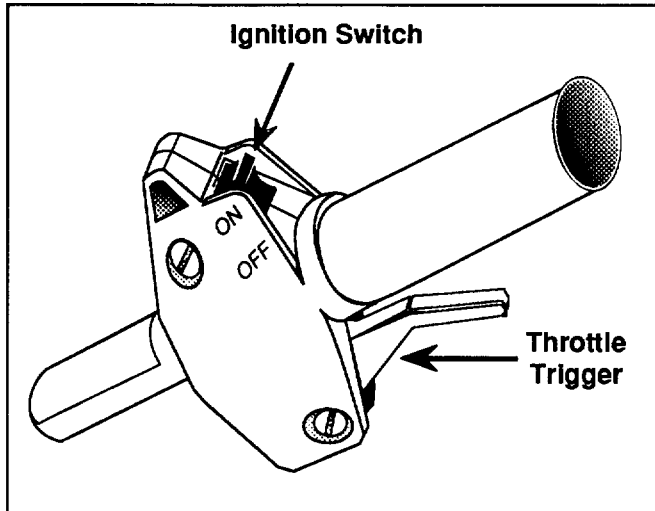

Fig. 7
2. **MOVE THE IGNITION SWITCH "ON"!** (Fig. 7).
6. **SQUEEZE THE THROTTLE TRIGGER** (Fig. 7) **TO FULL THROTTLE**. Hold the trigger against the hand grip.
11. **TO STOP THE ENGINE**, move the **IGNITION SWITCH** to the "OFF" position (Fig. 7).